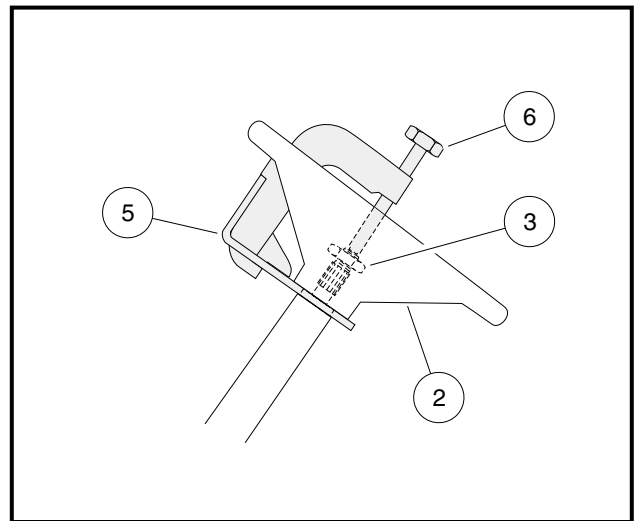

Figure 7-2 Steering Wheel Puller
- 5.3. Rotate the anvil screw (6) clockwise until the base plate contacts the bottom of the steering wheel where it attaches to the steering column (**Figure 7-2, Page 7-3**).